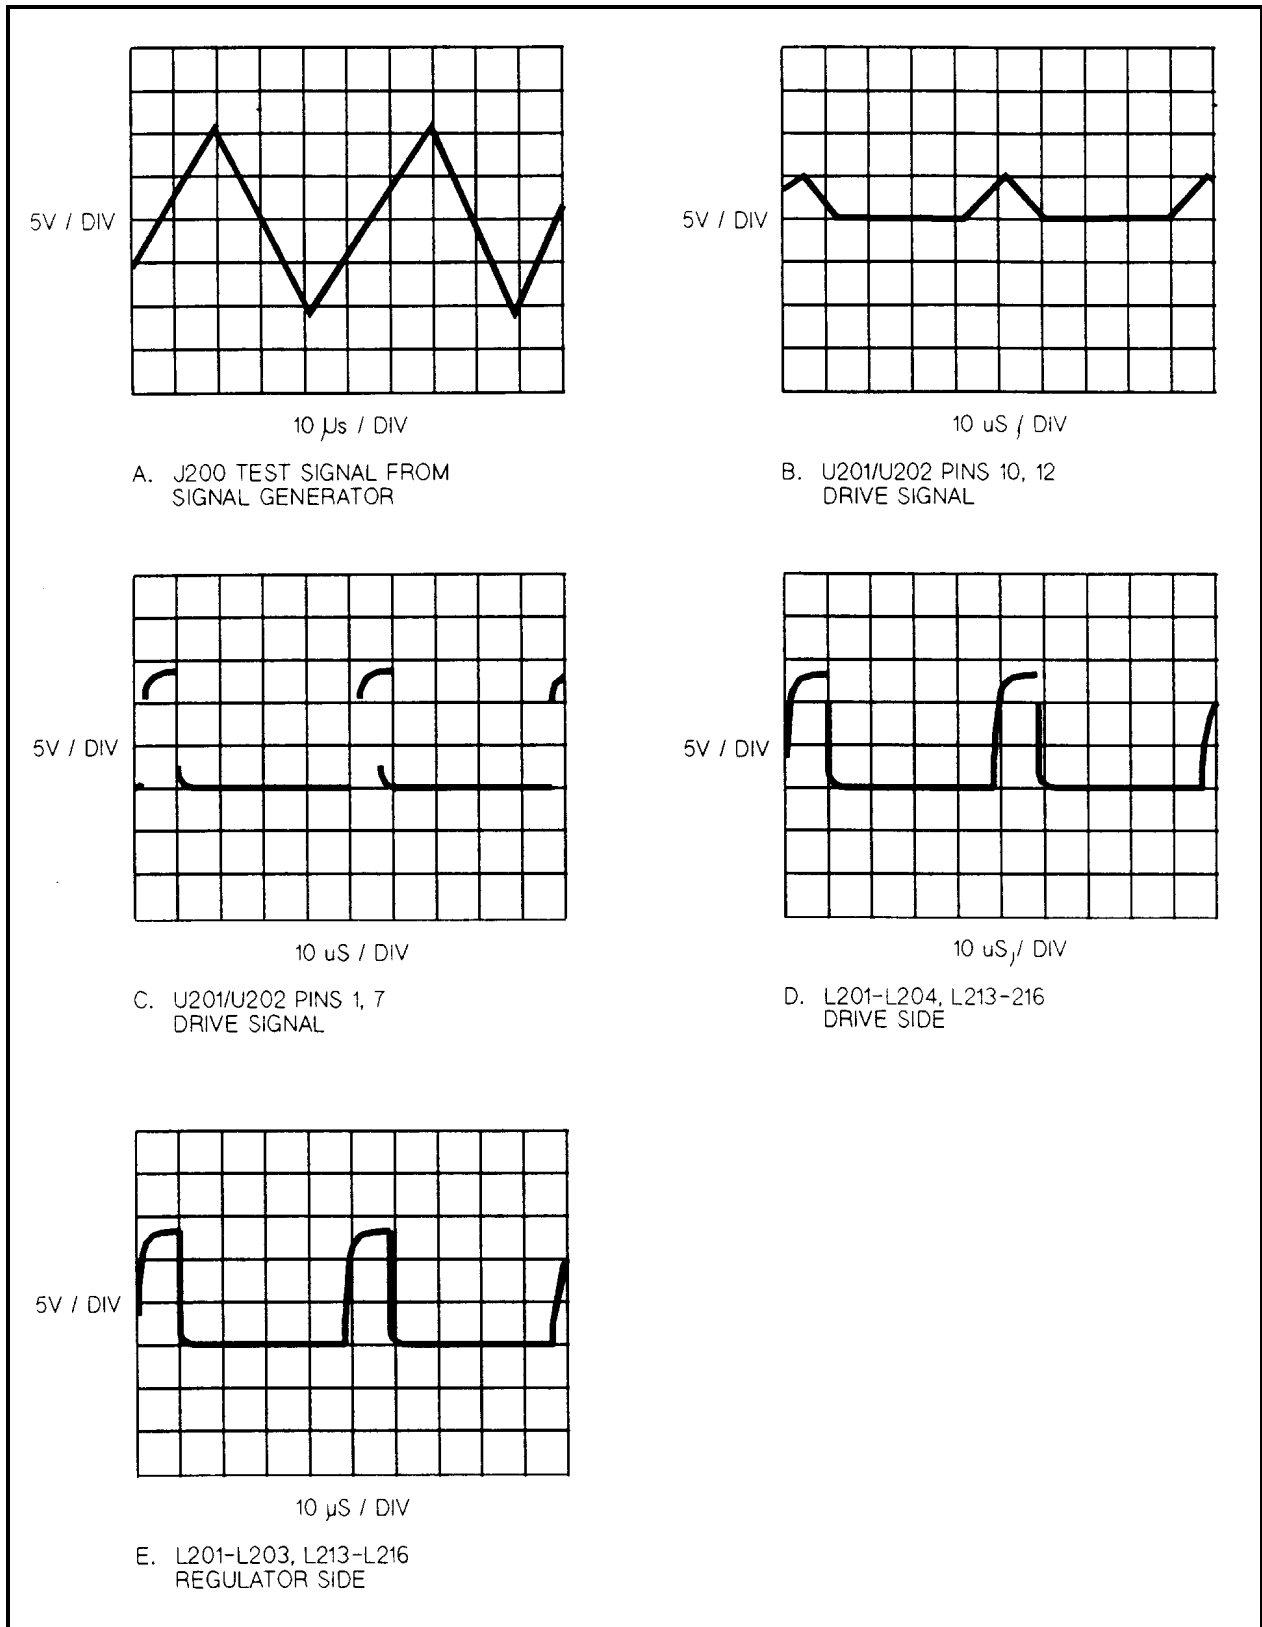

Figure 3-14. A3 FET Board Test Waveforms
10. Pulses should be present on both sides of inductors L201-204 and L213-216 as follows:  Check the pulses on the driver transistor side (Q251-Q254) of each inductor.  Check the pulses on the FET regulator side (Q201-Q204, Q211, Q222, Q233, and Q244) of each inductor.  If the waveforms do not have the fast step as shown in Figure 3-14, then the associated FET gate input has an open circuit.	See Figure 3-14D.  See Figure 3-14E.